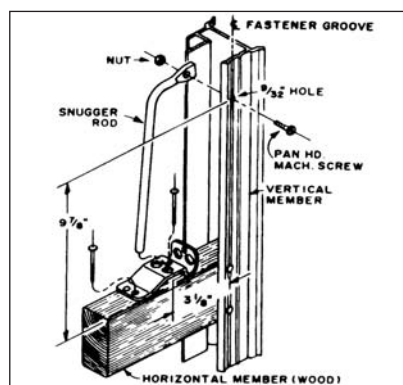

FIGURE 10
Slip the larger link on the end of the chain over the snigger rod and insert snigger rod into the rod support. Secure the opposite end to vertical member using (1) 1/4" fastener and nut as shown. **See figure 10.**
Select a horizontal door member that is at a convenient height. Drill one 9/32 diameter hole in the vertical door member. (See **figure 10**). Slip rod support on straight end of snigger rod and properly position assembly to determine proper location of rod support. Fasten rod support with (2) ring nails as shown.